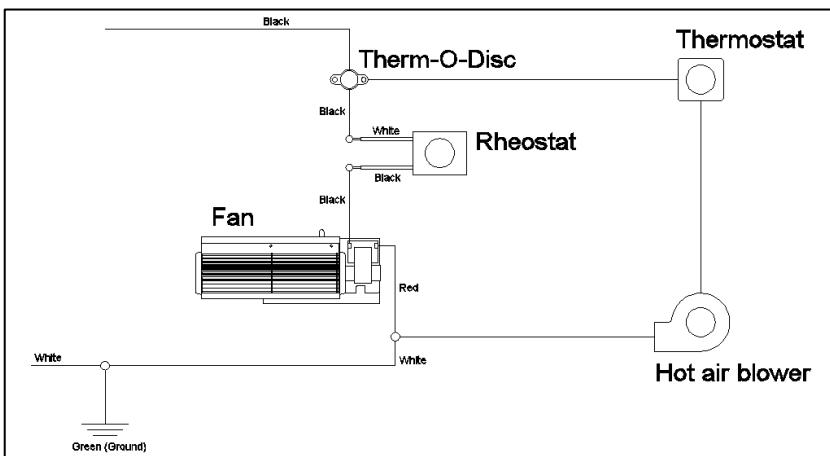

Figure 4-2: Electrical Diagram for Piping Connection of Hot Air Kit and Blower Kit
8. Make the electrical connections (Figures 4-2 and 4-3). Note that the power supply to the blower is 115V.